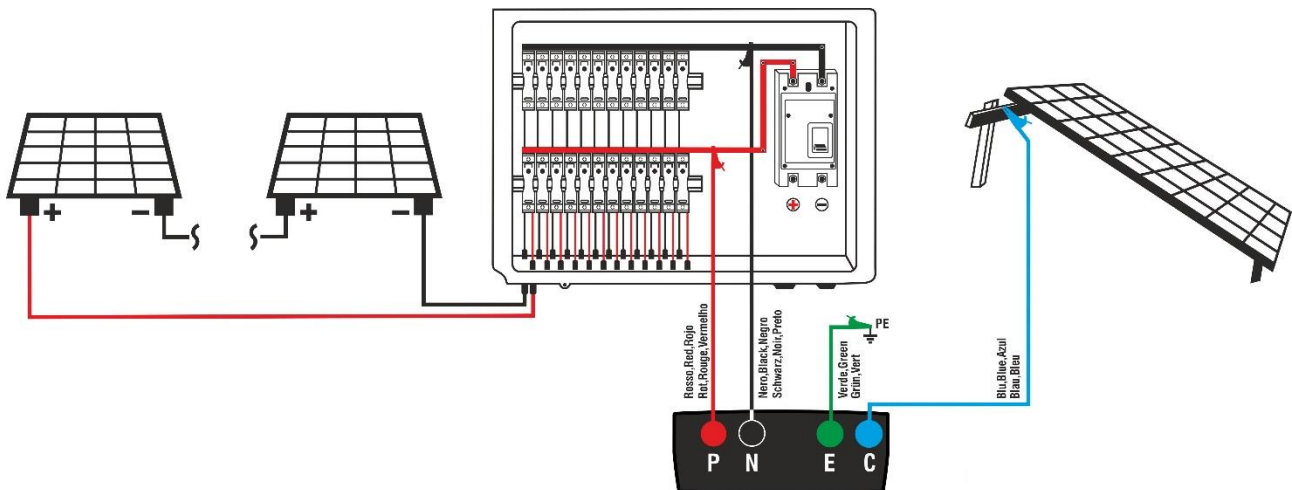

Fig. 15: Connection for IVCK tests with Start&amp;Save function
7. Connect the instrument as shown in Fig. 15. In particular, connect the negative pole of the bar to the **N** input via a fixed connection with a crocodile terminal, the positive pole of the bar to the **P** input via a fixed connection with a crocodile terminal, the main earth node of the system (for MΩ and RPE tests) to the **E** input and, if necessary, the **C** input to the metal masses (for RPE tests).